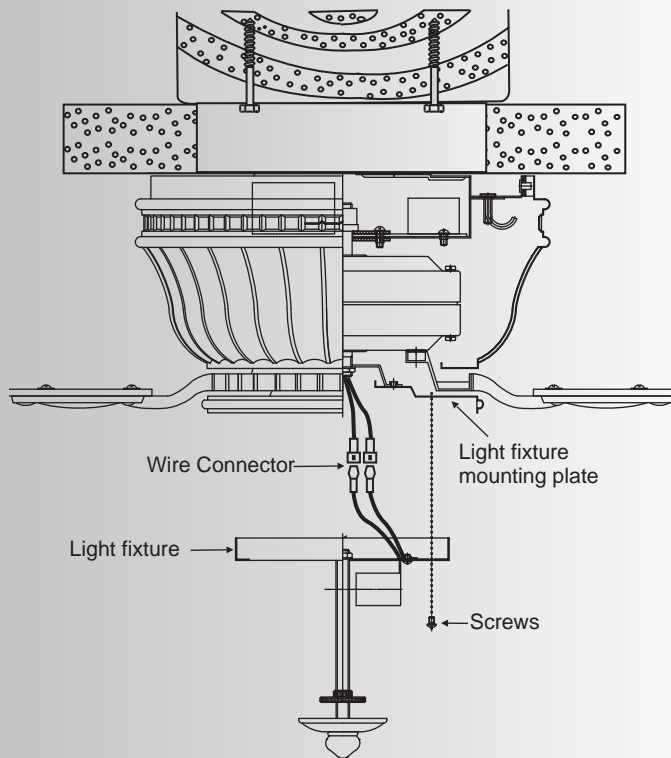

Fig. 14
1. Loosen the two screws on the light fixture mounting plate attached to the motor shaft and "remove" and save the third screw. (Fig. 14)
2. Hold the light fixture close to the fan and connect the white wires by pushing the connectors on the wire ends together. Follow the same procedure for the black wires. (Fig 14)
Tighten both key hole screws and replace the third screw previously removed and tighten securely. (Fig. 14)